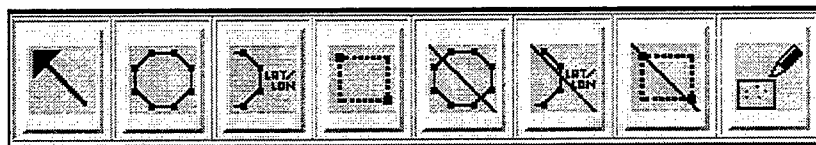

Fig. 8 — Coverage definition buttons
The coverage definition buttons (Fig. 8) allow a user to define coverage areas in four ways: (1) using the mouse to pick points and define a polygon; (2) entering a series of latitude/longitude (lat/lon) points to define a polygon; (3) using the mouse to draw a “rubber-band” box around a coverage; and (4) picking individual CAC segments, where one CAC segment is equivalent to 2" × 2" of paper chart (Lohrenz et al. 1993). Note that when a button's icon is light gray, it is not currently available for use.